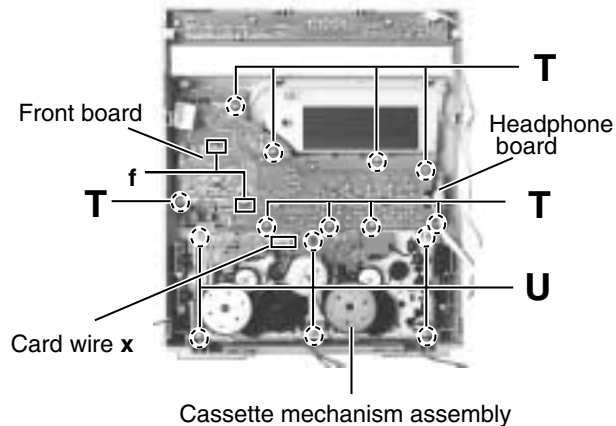

Fig.25
■Removing the headphone board (See Fig.25)
■Removing the cassette mechanism assembly (See Fig.25)